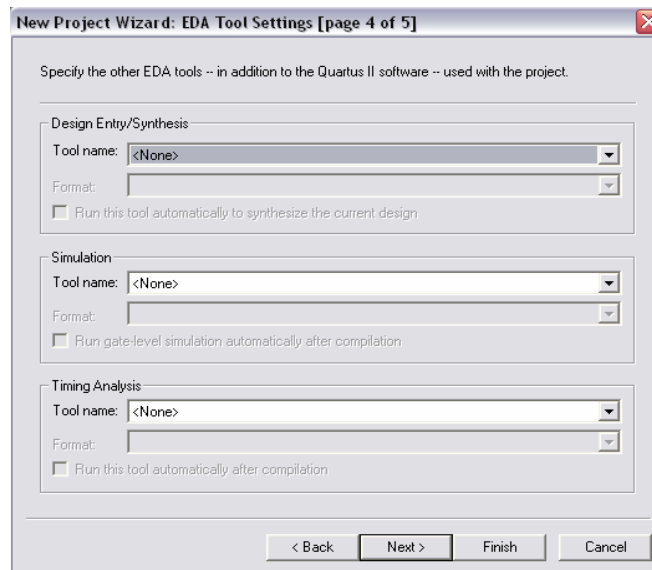

Figure 6. Other EDA tools can be specified.
4. We have to specify the type of device in which the designed circuit will be implemented. Choose **CycloneII** as the target device family. We can let Quartus II software select a specific device in the family, or we can choose the device explicitly. We will take the latter approach. From the list of available devices, choose the device called **EP2C70F896C6** which is the FPGA used on Altera’s DE2 board. Press **Next**, which opens the window in Figure 6.